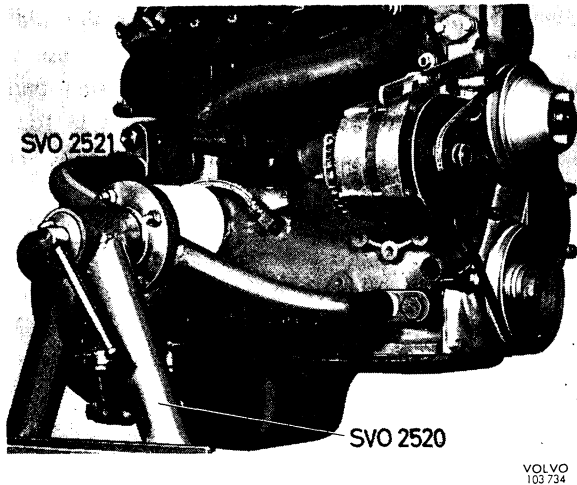

Fig. 2-13. Engine on stand
1. Place the engine on stand SVO 2520 with fixture SVO 2521 (see Fig. 2-13). Check that the oil has been drained off.